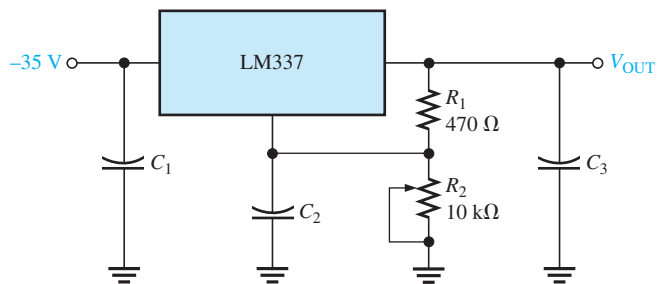

FIGURE 11-47
22. Determine the minimum and maximum output voltages for the circuit in Figure 11-47. $I_{ADJ} = 50 \mu\text{A}$.